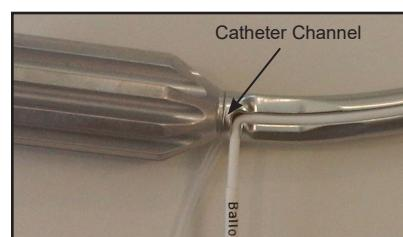

Figure 2
- Ensure the Tip catheters are secure in the catheter channels of the Handle (see Figure 1 and Figure 2).